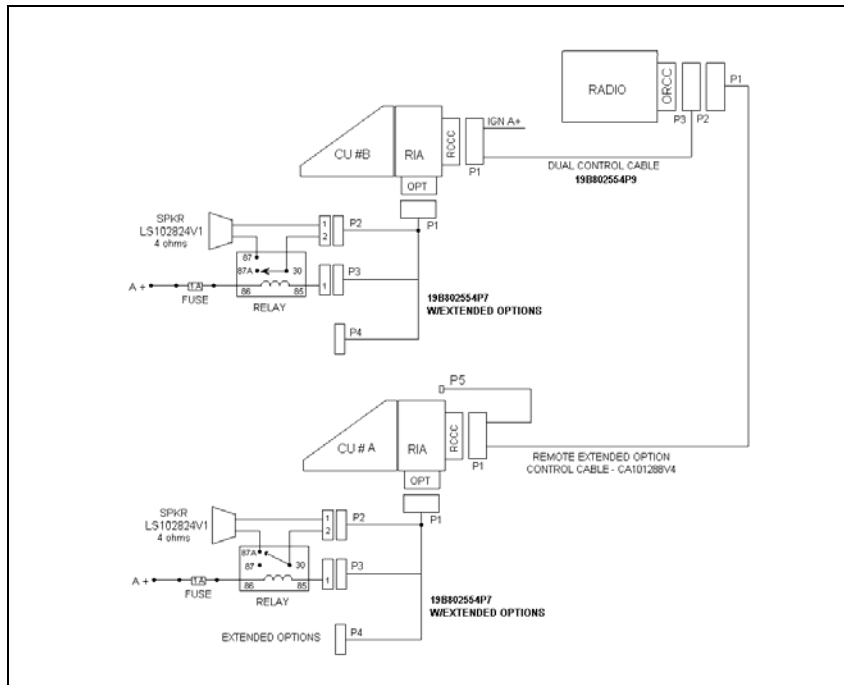

Figure 11-9: M7100 Dual Control Unit Remote/Remote Mount Installation Configuration
1. Referring to Figure 11-9, run the Remote Control Cable (CA101288V4) between locations for the Radio Unit and Main Control Unit.
- B. Hardwire each speaker directly (without relays) as shown in Figure 11-9.
11. Main Control Unit Speaker: Connect the lead nearest the speaker to **Pin 87** of the relay. Connect the lead nearest the connector to Pin 30 of the relay. Connect connector to the accessory cable P2 (refer to Figure 11-9).
12. Auxiliary Control Unit Speaker: Connect the lead nearest the speaker to **Pin 87A** of the relay. Connect the lead nearest the connector to Pin 30 of the relay. Connect the connector to accessory cable P2 (refer to Figure 11-9).
13. For Each Relay: Connect a #18 AWG black wire between the relay, Pin 85 and accessory cable P3-1 (labeled "**OUT2**" on schematic diagrams in the maintenance manual). Use a 1/4" tab receptacle on the relay side and a mating Molex connector and pins on the accessory cable side. Connect the mating Molex connector to the accessory cable P3 when finished (refer to Figure 11-9).
14. For Each Relay: Connect one end of a #18 AWG red wire to the relay, Pin 86. Cut the lead to length, and connect the other end to the 1 amp fuse holder supplied. Use crimp on connectors supplied. Connect the other side of the 1 amp fuse holder to the A+ battery source or a vehicle A+ fuse block. Use a #18 AWG red wire and a ring lug supplied, if needed (refer to Figure 11-9).